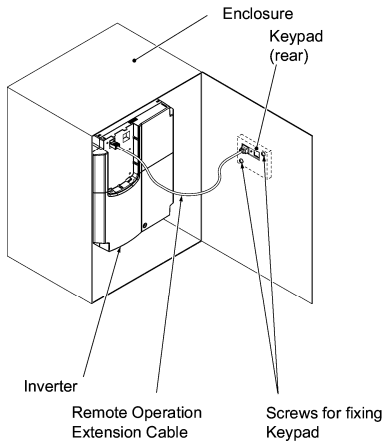

Figure 2.30 Mounting Keypad on the Enclosure Wall
- Mounting a keypad on the enclosure wall (Refer to Figure 2.30.)